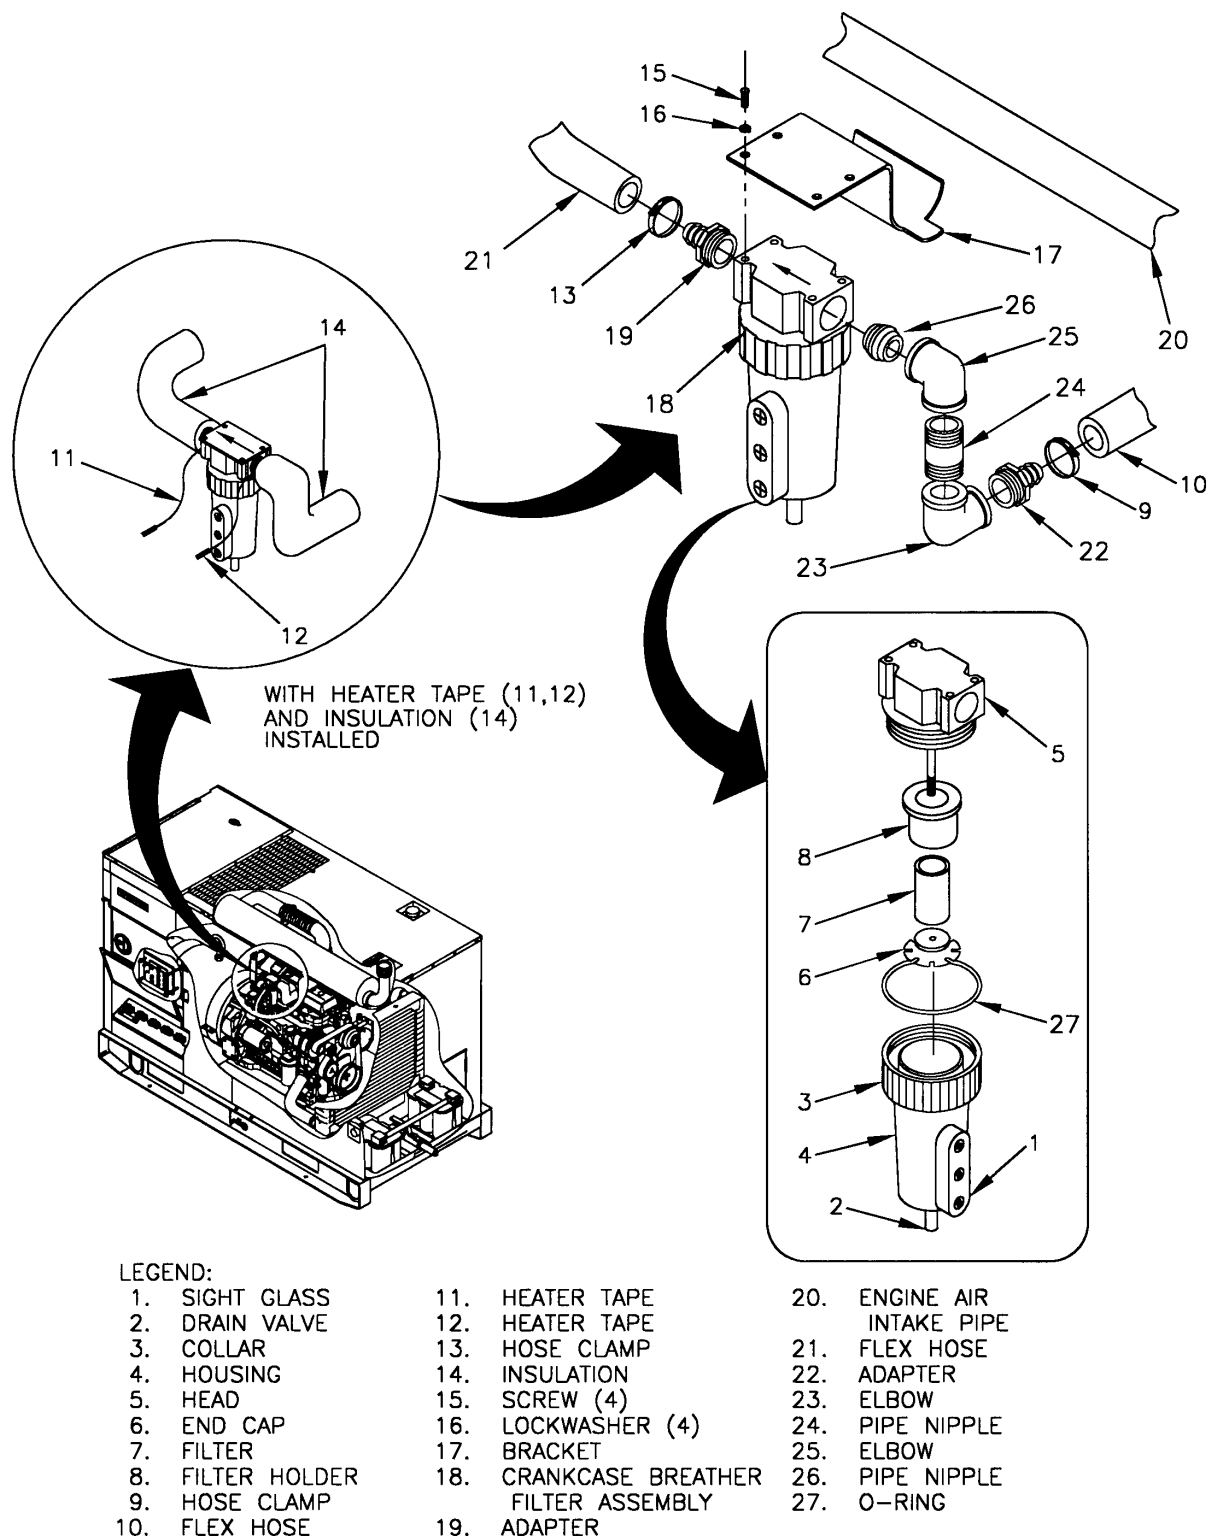

FIGURE 4-21. CRANKCASE BREATHER FILTER ASSEMBLY
- (3) Inspect sight glass (1, Figure 4-21). If fluid is visible, drain by positioning suitable container under crankcase breather filter assembly (18) and loosening drain valve (2). Tighten drain valve when complete. Properly dispose of fluid.
- (4) Inspect flex hoses (10 and 21), heater tape (11 and 12), and insulation (14) for cracks, holes, dry rot, and damaged or missing hose clamps (9 and 13).
- (5) Inspect crankcase breather filter assembly (18) and bracket (17) for cracks, excessive corrosion, and other damage.
- (6) Clean light corrosion from bracket (17) and hose attaching points with fine grit abrasive paper (Item 16, Appendix E).
- (7) Replace damaged parts.
- (8) Close engine compartment access doors.
- (3) While supporting housing (4, Figure 4-21), loosen collar (3), and remove housing from head (5).
- (4) Remove o-ring (27), end cap (6), filter (7), and filter holder (8) from head (5). Discard filter.
- (5) Install filter holder handtight (8), new filter (7), and end cap (6) in head (5).
- (6) Position housing (4) on head (5) with sight glass (1) visible, and secure with collar (3) handtight.
- (7) Close engine compartment access doors.
- (3) Peel back insulation (14, Figure 4-21) as required to expose heater tapes (11 and 12). Unwind heater tapes from assembly and remove from generator set.
- (4) Loosen hose clamps (9 and 13), and remove flex hoses (10 and 21) from crankcase filter assembly (18).
- (5) While supporting crankcase filter assembly (18), remove screws (15), lockwashers (16), from bracket (17). Note position of arrow on head of assembly in relation to the bracket for installation later. Remove crankcase filter assembly (18) from generator set.
- (6) As required, remove flex hose (10) from crankcase breather and flex hose (21) from exhaust pipe. Remove bracket (17) from engine air intake pipe (20).
- (7) As required, remove nipple (26), elbow (25), nipple (24) elbow (23) and adapter (22) from head (5) of crankcase breather filter (18). On other side of head (5), remove adapter (19).